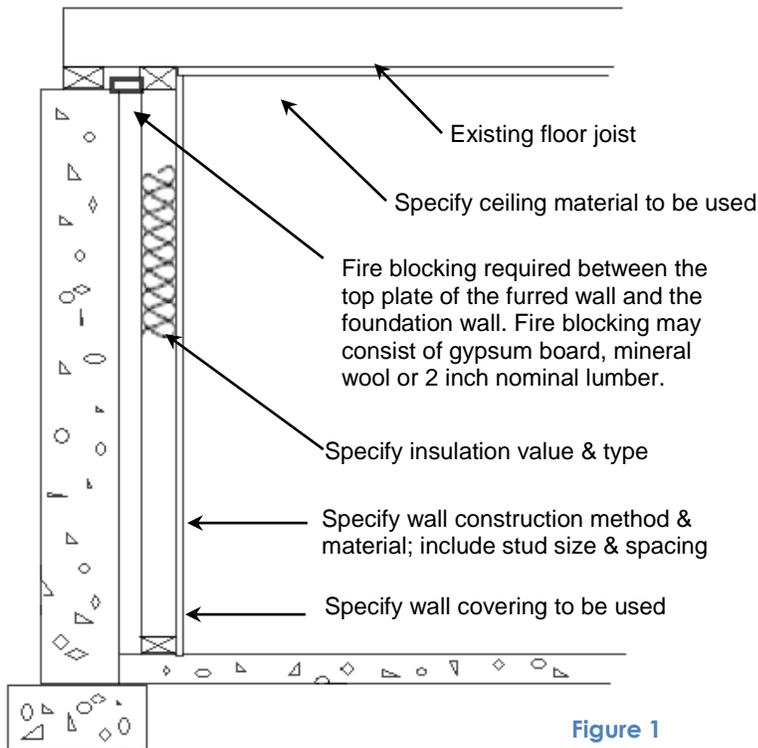

Figure 1
- Two sets of plans, including plan view (see fig.8) and wall detail (see fig.1), drawn to scale (1/4 inch or 1/8 inch equals 1 foot is preferred) are required to be submitted with the application. Plans must provide with sufficient clarity and detail dimensions to show the nature of the work to be performed. The plans must show the size and type of materials to be used. A third set is required if plumbing work to be done. Plumbing plans must be described with a diagram or isometric drawing. *See fig. 8 for example of required floor plans and Fig.5 for plumbing plans.*
at the floor/ceiling level. All penetrations at top plate of wall shall be fire stopped. All concealed spaces shall be fire blocked. *See Fig.1 and Fig. 7a & 7b*